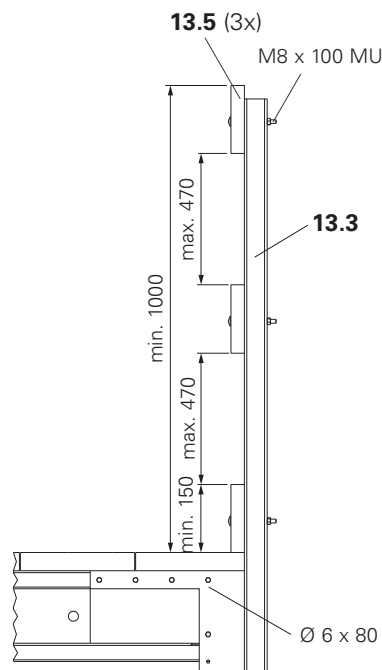

Fig. A1.25
- **End Guardrail Post CB. (Fig. A1.25)**
(Fig. A1.25)